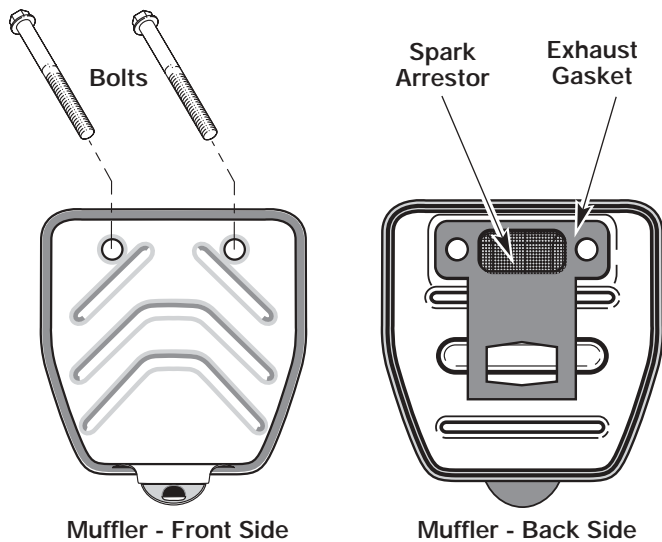

Fig. 29
2. Locate muffler front and the two (2) bolts securing it to the engine (Fig. 29). Remove the two (2) bolts using a flatblade screwdriver or 5/16-inch socket or nut driver. Pull muffler off of the engine.
3. Turn muffler over to the back side and locate the exhaust gasket. Remove the exhaust gasket from the muffler (Fig. 29).
7. Place the exhaust gasket against muffler's back side. Align the gasket bolt holes with the bolt holes in the muffler. While holding exhaust gasket in place, insert the bolts into the muffler's front side (Fig. 29).